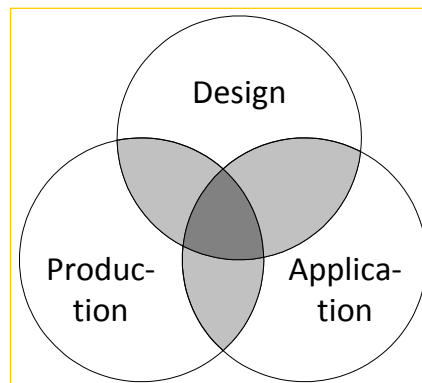
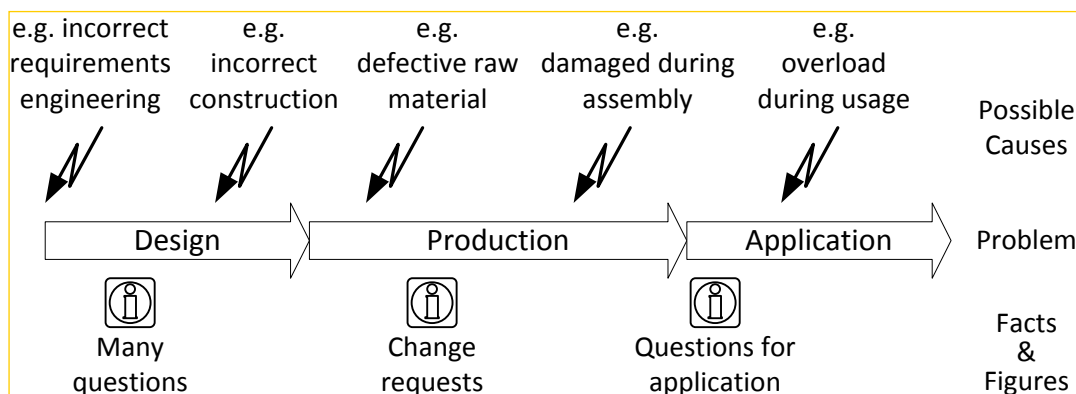

Figure 5.4: Interaction of causes of different phases in product problems
Figure 5.6: Events along the product creation phases – examples
The **causes underlying the problem** can also arise from the overall lifecycle of the product – **design** (e.g. an error when taking into consideration a customer requirement), **manufacture** (e.g. an error when securing a production process parameter that is definitive for the product features) or the **application** (e.g. storage, transport or use in an environment not provided for the product). The more causes that come together from these lifecycle phases, the more these causes act in combination, and the more varied their interactions (figure 5.4), the more complex the problems are.
Characteristic of product problems is the effect of influences from the product generation phases **design**, **manufacture** and **application** that may have been concealed/disguised (see figure 5.4). Crucial for product problems is therefore the targeted use of information from the entire product lifecycle: "What do we know about the design, manufacture and application, including the respective boundary conditions?" (figure 5.6).
– but also the difficulty of – a clear problem description and structure increases. So it is all the more important to query the sequence of events along the product generation process in terms of **facts**, **indices** and **possible causes** (timeline, figure 5.6).